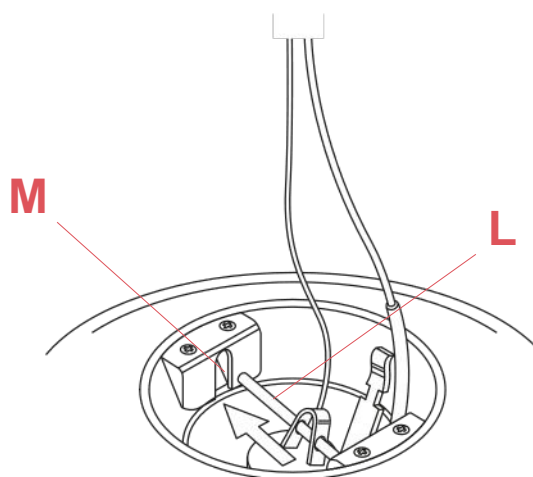

Fig.7
Insert the rod (L) in the housing (M). (fig.7)